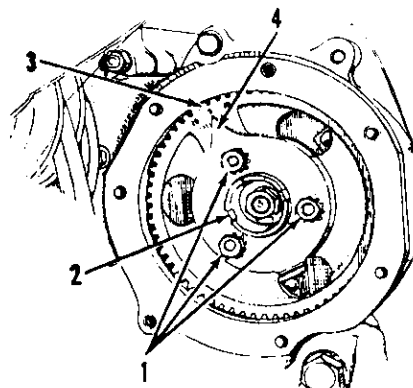

Fig. 57—Injection pump drive gear used on early B-275 tractors equipped with injection pump having pneumatic governor.
To change the injection pump timing, first remove the injection pump drive gear cover from timing gear cover. Refer to Fig. 57 and loosen the three cap screws (1). Turn indicator (4) clockwise to advance timing, or counter clockwise to retard. One division on the injection pump drive gear equals four degrees on the engine crankshaft.